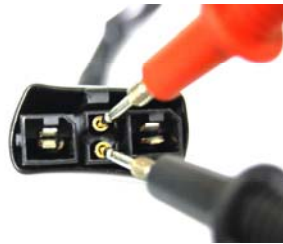

Figure 7
- Place the red and black meter leads on the two middle pins of the motor connector as shown in figure 7 on page 19.
- Place the red and black meter leads on the two middle pins of the motor connector as shown in figure 7.